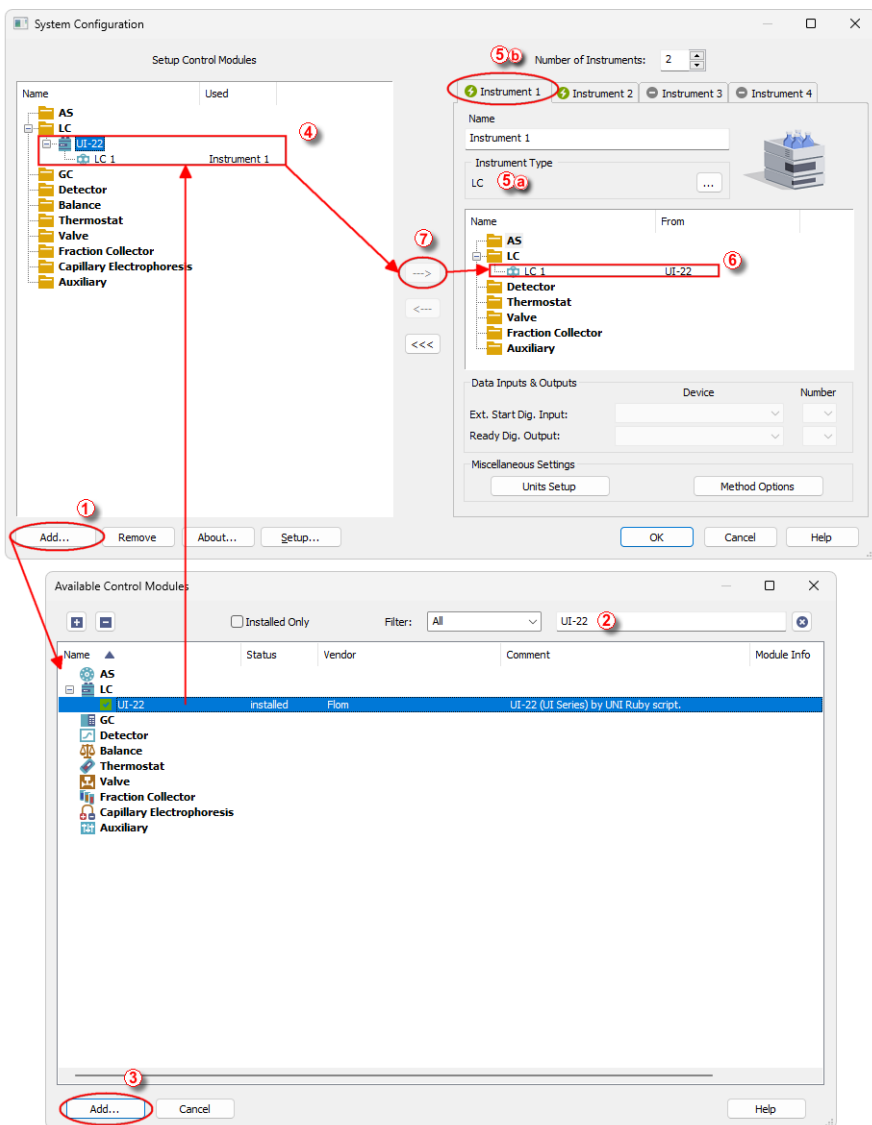

Fig. 3: How to Add Flom pumps module
- Press the *Add* button (① on Fig. 3 on pg. 4.) to invoke the *Available Control Modules* dialog.
- You can specify the search filter ② to simplify the finding of the driver.
- Select the correct item and press the Add (③ on Fig. 3 on pg. 4.) button. Each device with already created UNI profile should have its own item named accordingly in the *Available Control Modules* dialog.